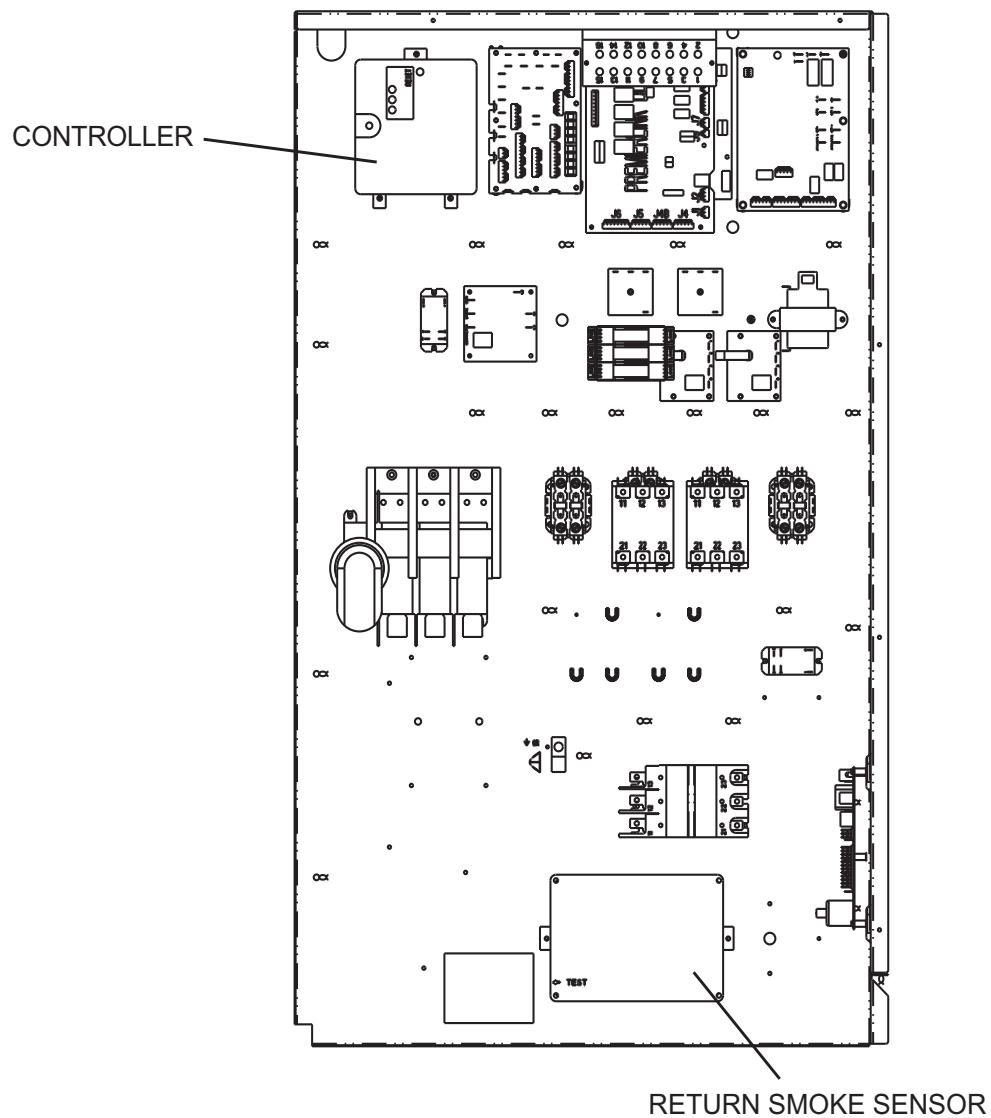

Fig. 5 — Return Smoke Sensor
7. Complete the wiring of the harness into the unit control terminal board as shown in wiring diagram (see Fig. 5).